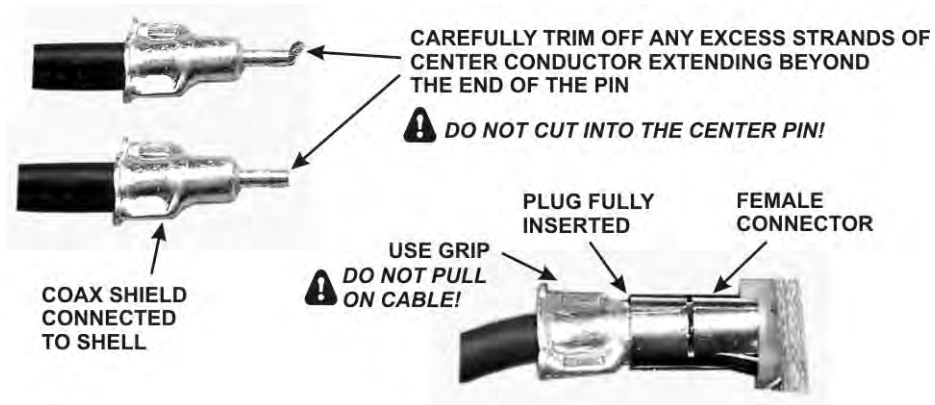

Figure 75. TMP Cable Connectors.
□ Locate the three TMP cables. They are about 1/8" (3 mm) diameter coaxial cables with connectors at each end as shown in Figure 75. Check each cable and trim any excess center conductor strands extending beyond the end of the pin as shown. This will make mating the connectors much easier.
□ Install the three TMP cables between connectors on the KREF3 board, the main RF board and the KSYN3 board as follows. Handle the connectors by the finger-grip area shown in Figure 75, especially if you unplug a connector. **Do not pull on the coaxial cable to unplug a connector!** When mating the connectors, be sure the plugs are fully inserted as shown in Figure 75. To make the connectors easier to mate, first be sure the center pin is started in the socket, then you may twist the connector back and forth while holding it by the metal ears if needed to seat it fully as shown in Figure 75.